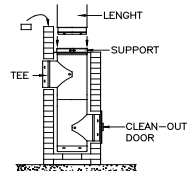

Fig. 3
4. Place the tee and length assembly on the support base, then add lengths along the chimney construction until the liner protrudes about 10 in. (254 mm) above the masonry chimney (fig.3).